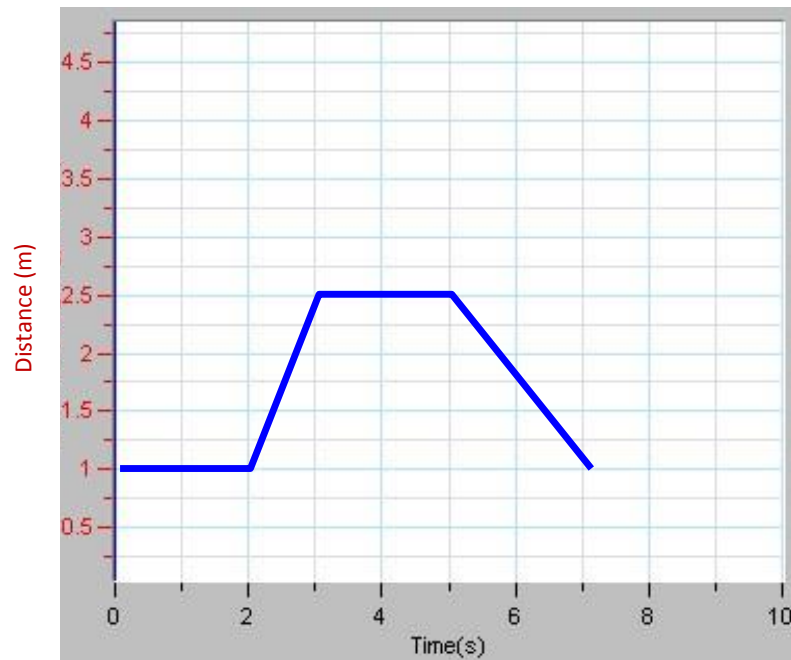

Figure 2: Position vs. Time graph
6. Repeat steps 3 to 5 to match the following graph (Figure 2):